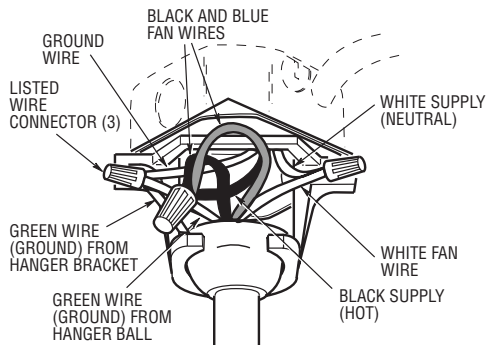

Figure 12
- 1. Connect the green grounding lead from the hanger ball and the green grounding lead from the hanger bracket to the grounding conductor of supply (this may be a bare wire or wire with green colored insulation). Securely connect wires with wire connectors supplied. (Figure 12.)
- 2. Securely connect the fan motor white wire to the supply white (neutral) wire using wire connector supplied (Figure 12). Securely connect the fan motor black wire and blue wire to the supply black (hot) wire using wire connector supplied (Figure 12). After connections have been made, turn leads upward and carefully push leads into the outlet box, with the white and green leads on one side of the outlet box and the black and blue leads on the other side of the outlet box.